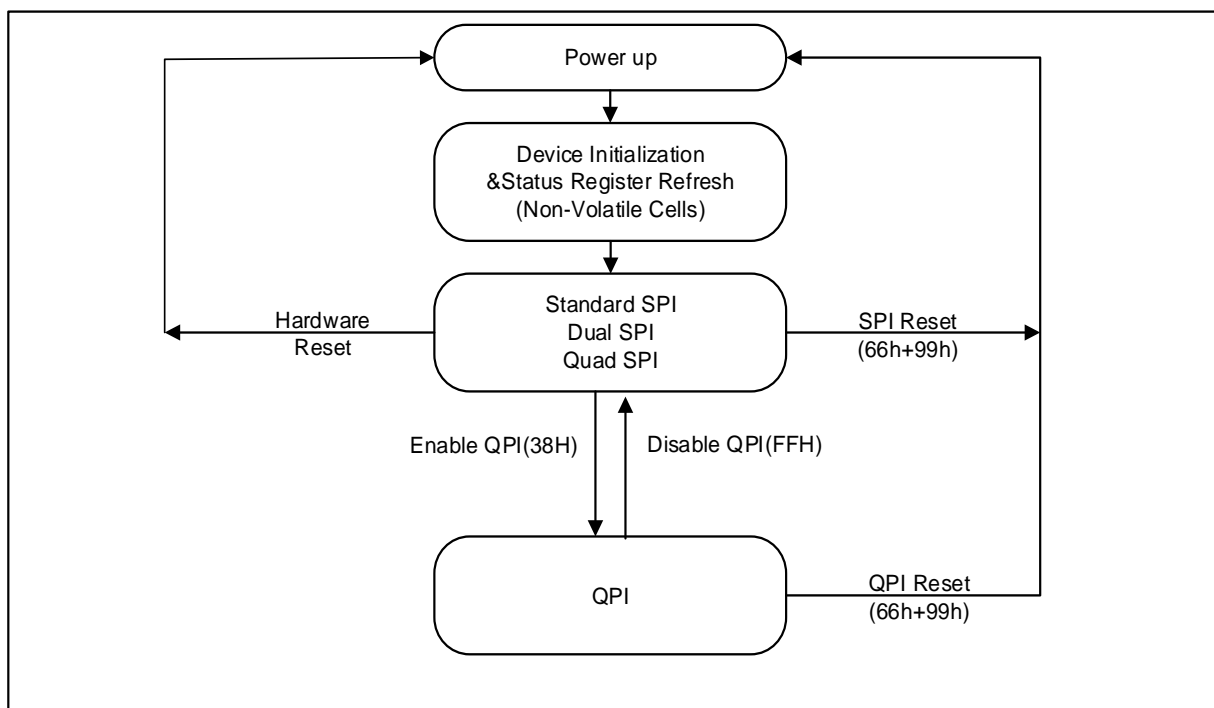

Figure 3. XM25QW32C Serial Flash Memory Operation Diagram
The XM25QW32C supports Quad Peripheral Interface (QPI) operations only when the device is switched from Standard/Dual/Quad SPI mode to QPI mode using the “Enter QPI (38h)” instruction. The typical SPI protocol requires that the byte-long instruction code being shifted into the device only via DI pin in eight serial clocks. The QPI mode utilizes all four IO pins to input the instruction code, thus only two serial clocks are required. This can significantly reduce the SPI instruction overhead and improve system performance in an XIP environment. Standard/Dual/Quad SPI mode and QPI mode are exclusive. Only one mode can be active at any given time. “Enter QPI (38h)” and “Exit QPI (FFh)” instructions are used to switch between these two modes. Upon power-up or after a software reset using “Reset (99h)” instruction, the default state of the device is Standard/Dual/Quad SPI mode. To enable QPI mode, the non-volatile Quad Enable bit (QE) in Status Register-2 is required to be set. When using QPI instructions, the DI and DO pins become bidirectional IO0 and IO1, and the /WP and /HOLD pins become IO2 and IO3 respectively. See Figure 3 for the device operation modes.